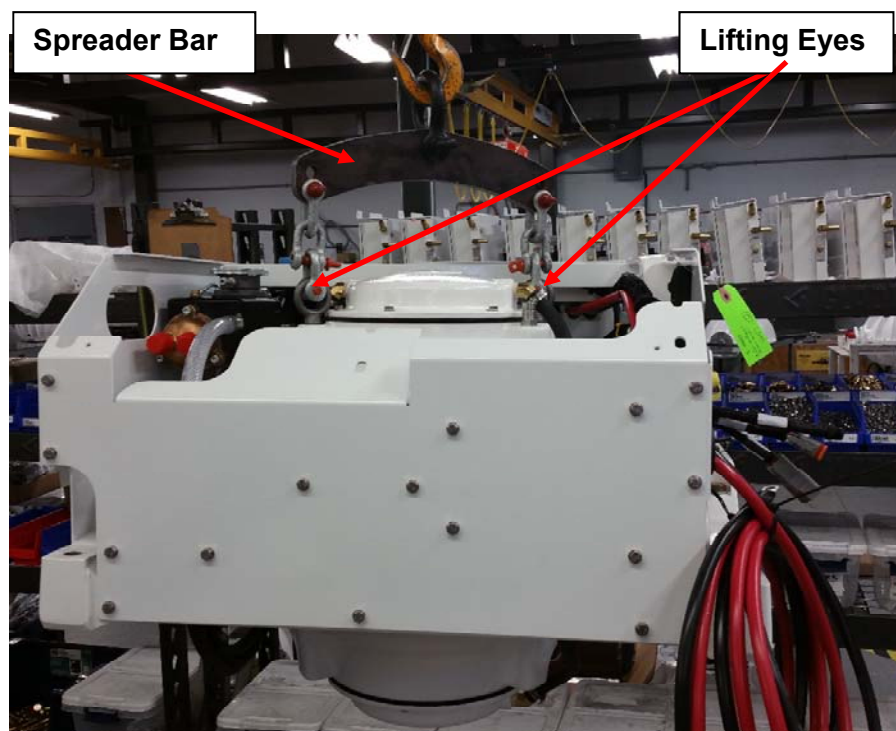

FIGURE 4 – LIFTING ARRANGEMENT
- 4) Attach spreader bar to the two lifting eyes located on the top of the Seakeeper enclosure. Stay clear of any other parts on the Seakeeper. The Seakeeper 3 weighs 249 kg (550 lbs). See Figure 4 below.